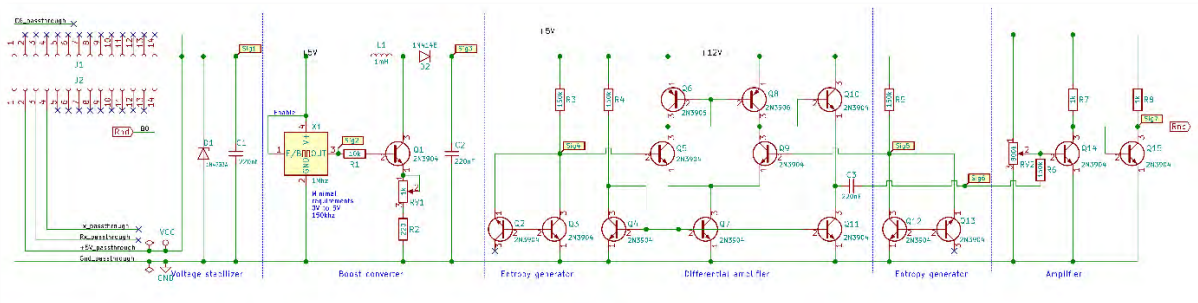
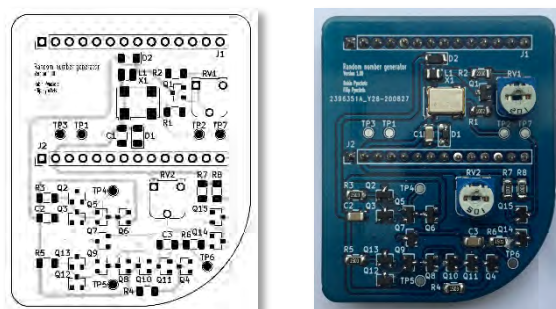

FIGURE 6 - SCHEMATICS
FIGURE 7 - PCB DESIGN
After creating some breadboard versions, a first working version of a random number generator saw the light (see *Figure 6* and *Figure 7*). The entire schematics together with the intermediate and final wave forms can be found in *Appendix 1*.
***DO NOT FORGET, HOWEVER, TO CALIBRATE THE DEVICE USING THE POTENTIOMETERS RV1 AND RV2 SHOWN IN FIGURE 7 AND IN THE SCHEMATICS IN APPENDIX 1.***